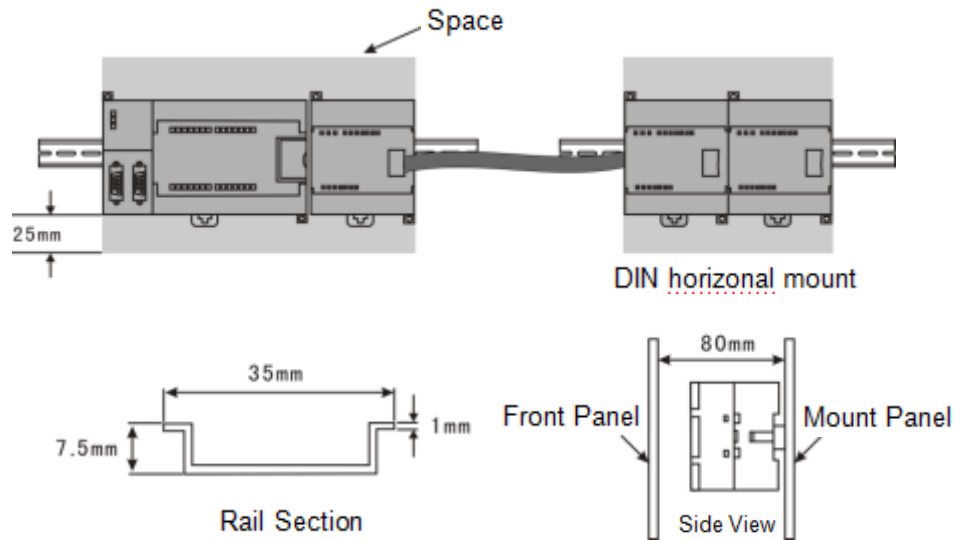

Figure 3-1 Installation
- 1)Location the open holes according to the dimensions on Figure 3-1;